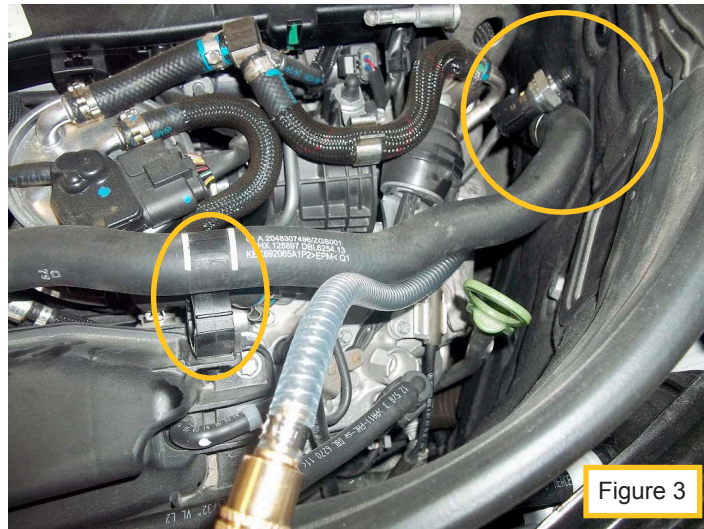

Figure 3
1. Unclip hose clamp for easier moving of hose (see figure 3).
2. Disconnect exhaust back pressure electrical. Remove exhaust back pressure sensor. Reconnect electrical connector (see figure 3)
3. Install adapter 069-3535 in its place hand tight (see figure 3).